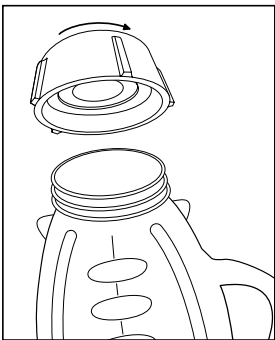

FIGURE 3
4. Place threaded jar nut or threaded jar skirt over blade and jar. (Note: If there are slots on top of collar, line them up with notches on jar.) Place the threaded jar nut or threaded jar skirt on jar and turn it clockwise to tighten. (Figure 3)